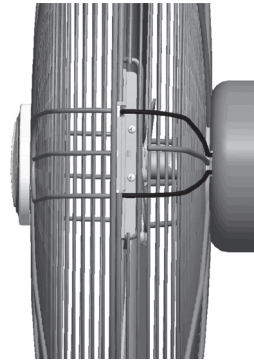

FIGURE 13
26. Align the two ends of the Interlock Bracket with the two notches in the tab on top of the Front Grille. Press the two ends of the Interlock Bracket into the two notches of the tab on the top of the Front Grille. See Figure 13.